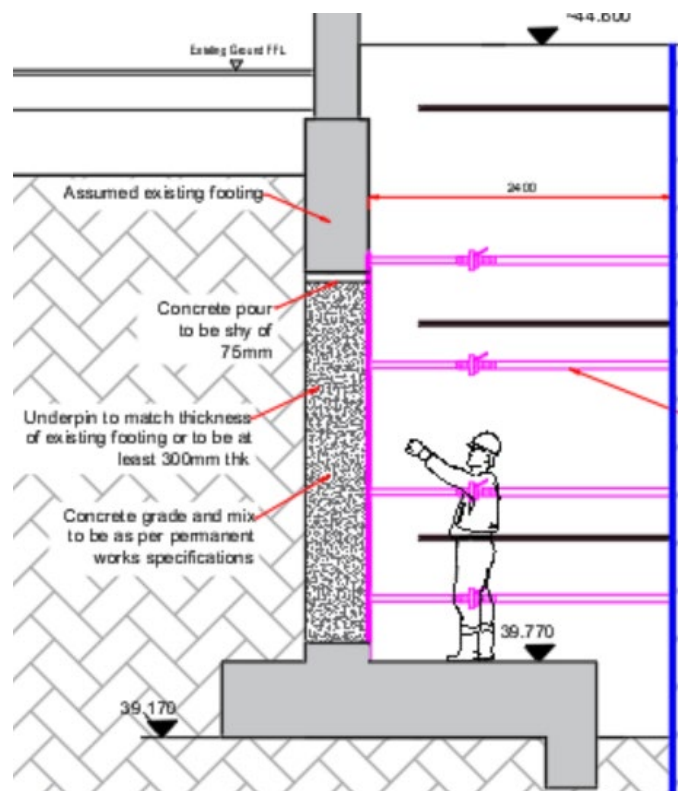

Figure 5 The stem of the RW to be poured 75mm shy of foundation
14. The underpin concrete should be poured till it is 75mm shy of the underside of the existing foundation (Fig 5).
trench while compacting the fill in 150mm layers (Fig 5). This ensures that the lateral earth pressures on the underpin and the trench sheets are adequately resisted.